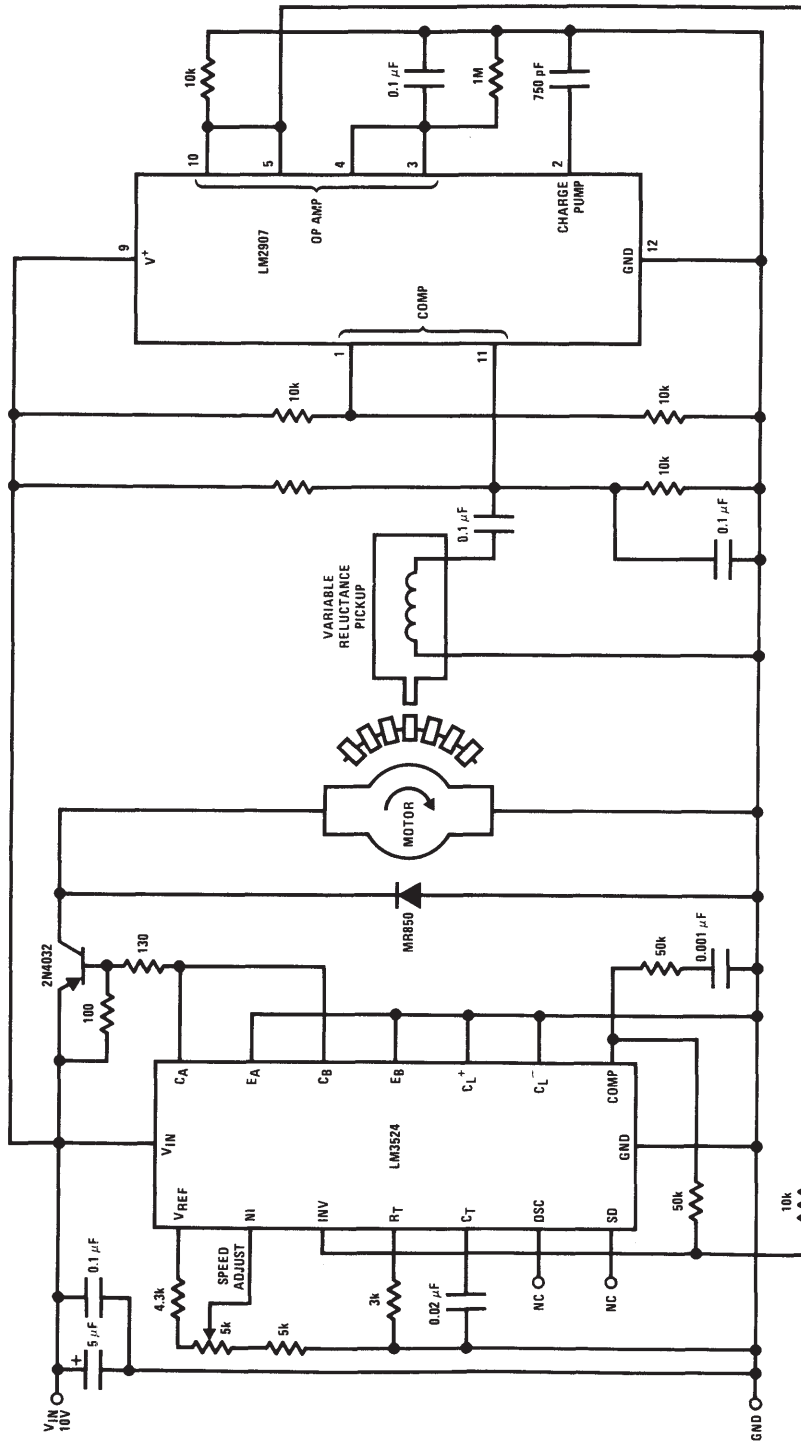

FIGURE 23. Motor Speed Control
*Figure 23* shows a regulating series DC motor speed control circuit using the LM3524 for the control and drive for the motor and the LM2907 as a speed sensor for the feedback network.